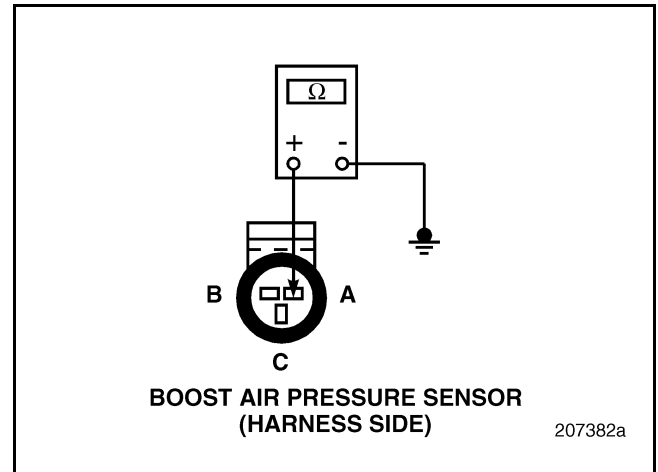

Figure 174
3. Check continuity between BAP Sensor harness connector pin A (ground line) and a good ground (see Figure 174).